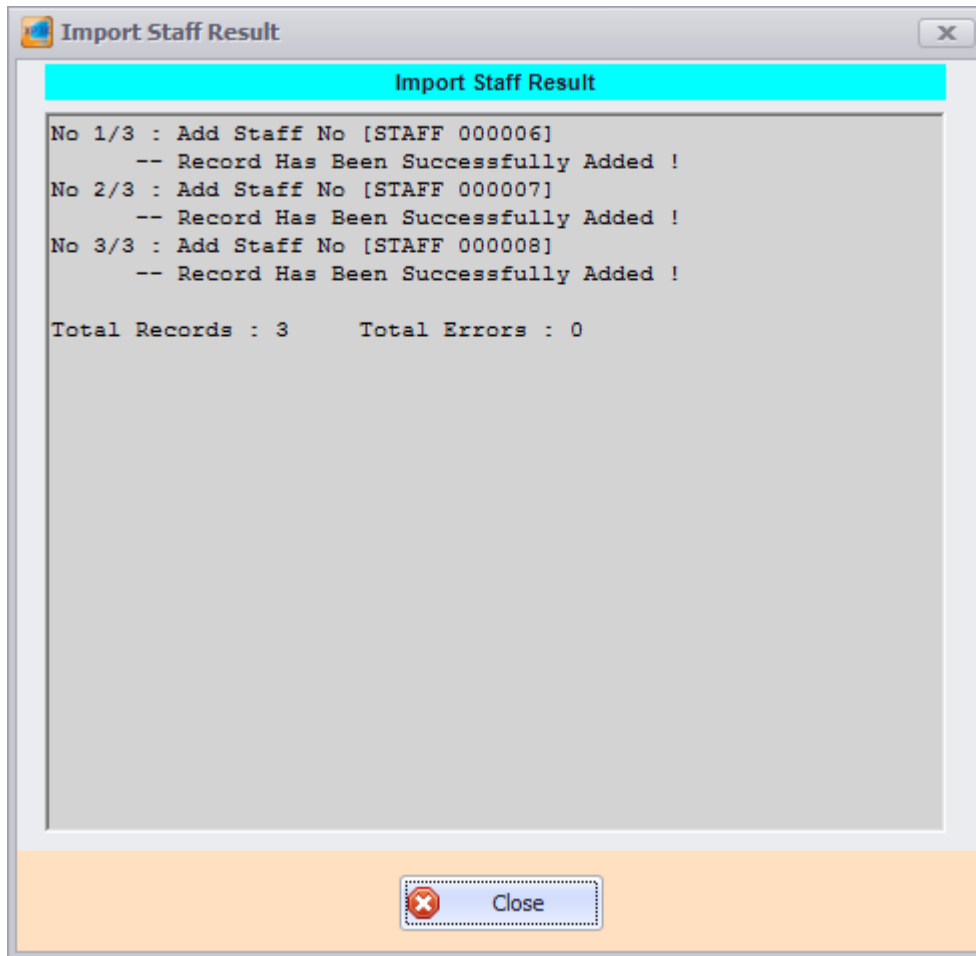

Figure 85 - Import Staff Result
16. The following screen will be shown (Refer **Figure 85**).